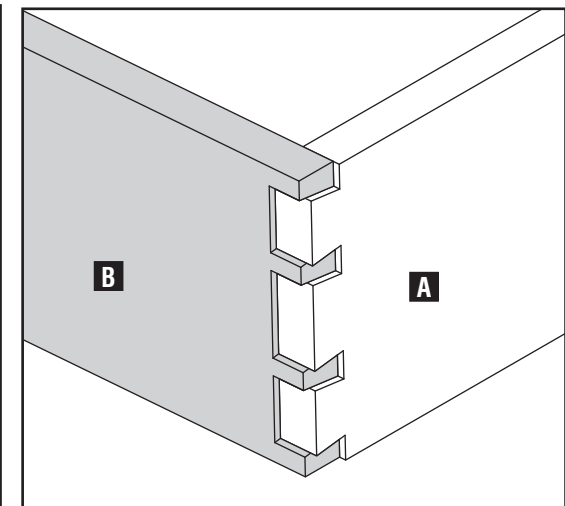

Fig. D17
**RECESSED:** If the end grain on the tailboard (A) Fig. D17, is recessed (or sunk below the other board as shown in Fig. D17), then the cut on the tailboard needs to be deeper. To correct, increase the depth of cut of the router bit.
**RECESSED:** If the end grain on the pinboard (B) Fig. D17 is recessed (or sunk below the other board as shown in Fig. D17), then the cut on the tailboard needs to be deeper. To correct, increase the depth of cut of the router bit.